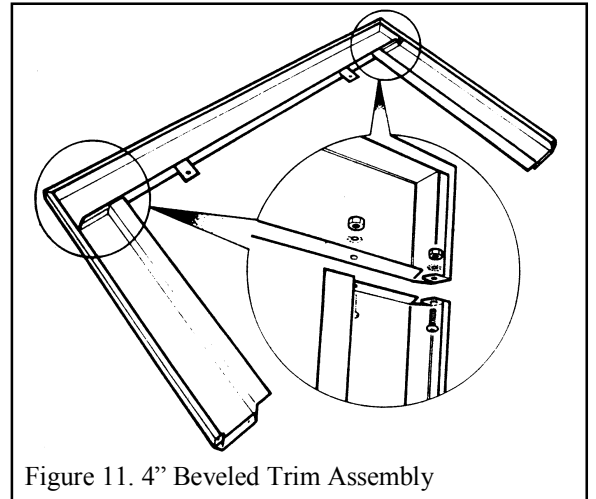

Figure 11. 4" Beveled Trim Assembly
1. Assemble the two outer surround sides to the top cross piece using the four nuts, screws and washers provided. See figure 11.